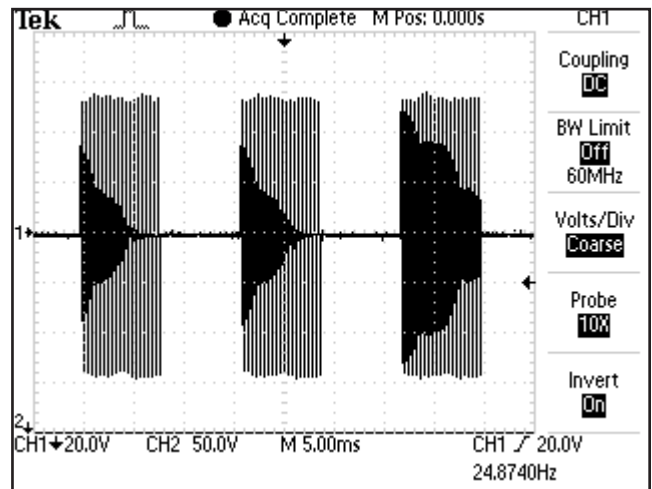

FIGURE 4.5
D. Russian- Figure 4.5 (Factory Default Setting)